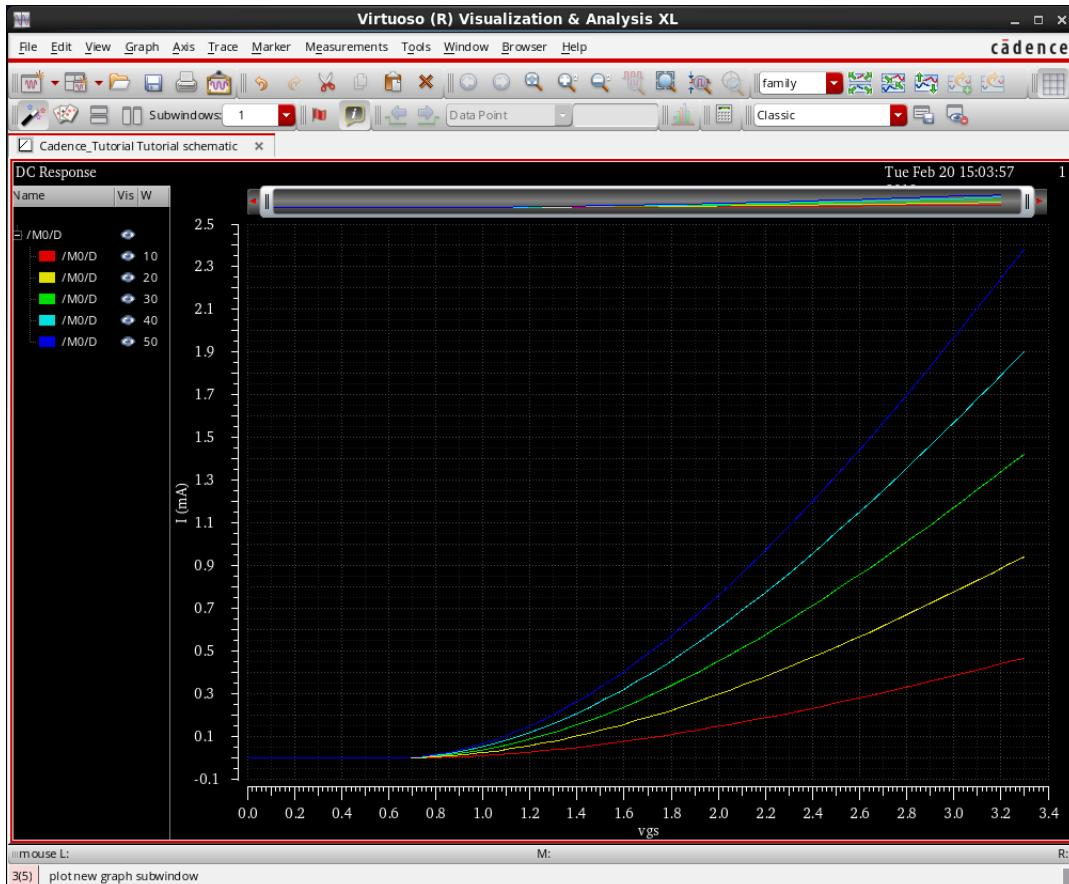

Figure 43: Drain current with variable gate-source voltage and variable transistor widths
The result of the simulation should be similar to the curves shown in *Figure 43*. According to *Formula (1)* we expect an increase in drain current for larger transistor.